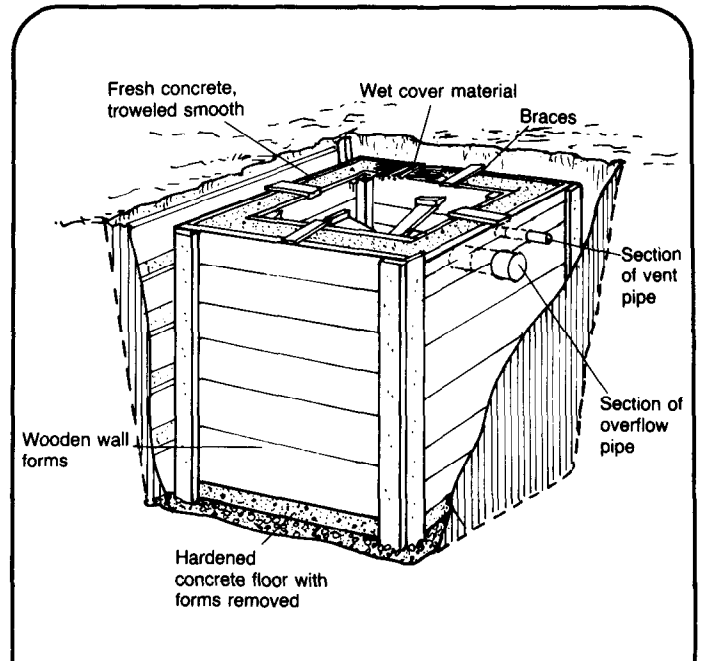

Figure 6. Fresh Concrete in Wall Forms
11. When the concrete floor has set, remove the cover material and the forms. Build the wall forms in place. Make two openings in the rear wall--one for the vent pipe and one for the overflow pipe. Make the vent pipe opening near the top corner of the wall. The position of the overflow pipe is critical, because it determines the flow line in the vault. The distance from the bottom of the overflow pipe to the floor of the vault must equal the liquid depth of the vault. The distance from the bottom of the overflow pipe to the top of the wall must be 300mm. Be certain these measurements are correct before pouring concrete. See Figure 6.
14. Cover the tops of the walls with wet straw or burlap and keep them moist for three to seven days. See Figure 6.